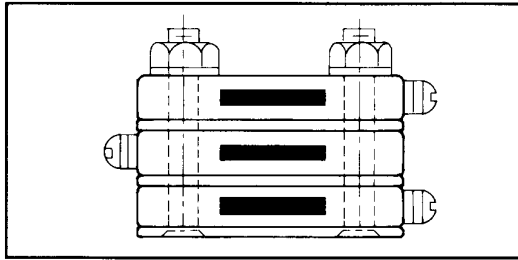

Figure 7 - Alternate Stacking Arrangement
4. Stack the modules and spacers in correct order. When there is interference between the adjacent ring terminals, adjust the center module as shown in Figure 7.